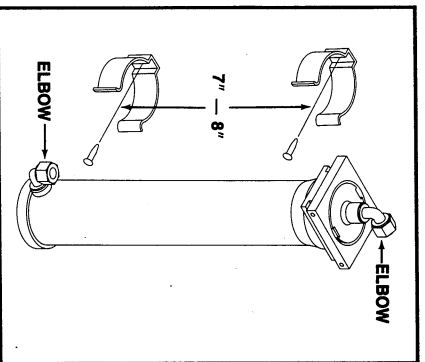

FIG. 5
1. Install the two large O-rings over the smaller threaded portion of each plastic elbow into the O-ring groove. Lubricate the O-rings with water and screw the elbows into the cartridge (Fig. 5).